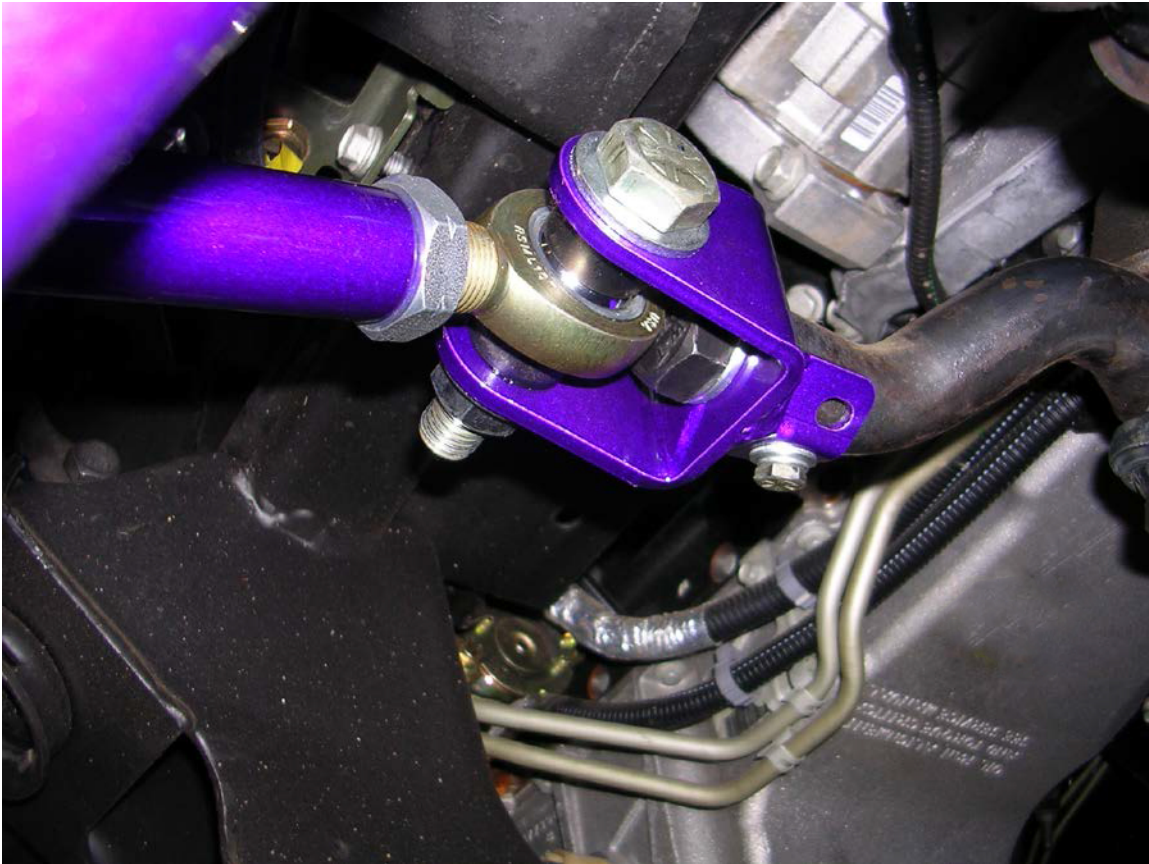

Figure 1: Steering Adapter Assembly
the factory hardware was removed. Bolt the steering adapter to the drag link with the tab of the adapter on the bottom of the drag link. Be sure that the steering adapter bolt hole runs horizontal, and use a ¼" fine thread bolt and lock washer from the hardware package and bolt the tab to the drag link using the old grease fitting hole. You may have to use some of the ¼" flat washers provided as shims in between the tab and the drag link if there is a gap. Tighten the 18mm bolt to 90 ft-lb, and the ¼" bolt to 10 ft-lb. See Figure 1
4. Use the 3 1/2" long bolts with the head of the bolt toward the front of the truck, washers and nuts to mount the end of the Cognito steering adjuster assembly that has the left handed rod end in the Cognito steering adapter. The rod end must have a spacer from the hardware package on each side of it inside the Cognito adapter. See Figure 1